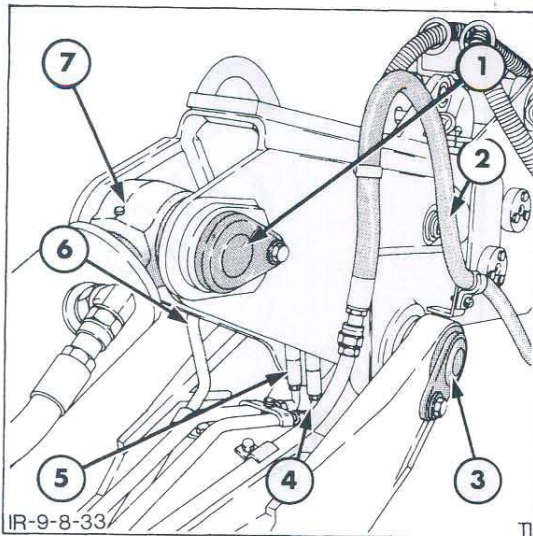

Figure 33
7. Disconnect the extendible dipstick hoses from the boom tubes. Figure 33. Cap the fittings. If the bucket cylinder is not to be removed, disconnect the bucket hoses from the boom tubes.